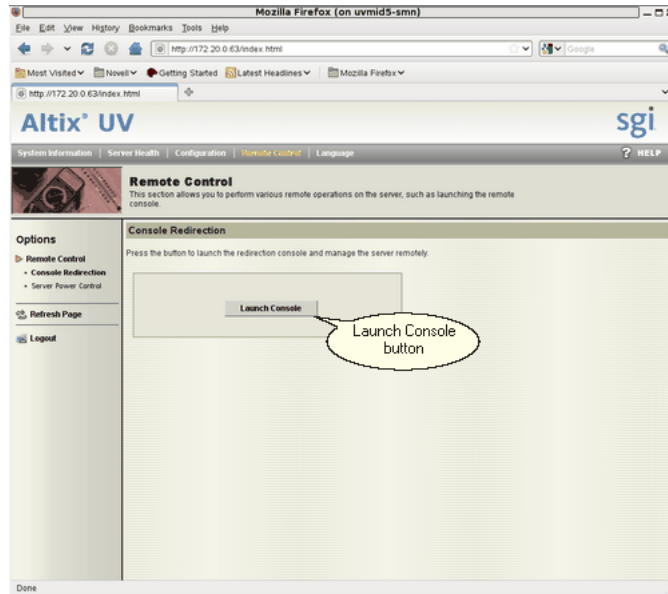

Figure 3-4 BMC Remote Control Console Redirection Screen
7. The **Console Redirection** screen appears, as shown in Figure 3-4 on page 46. Click on the **Launch Console** button.